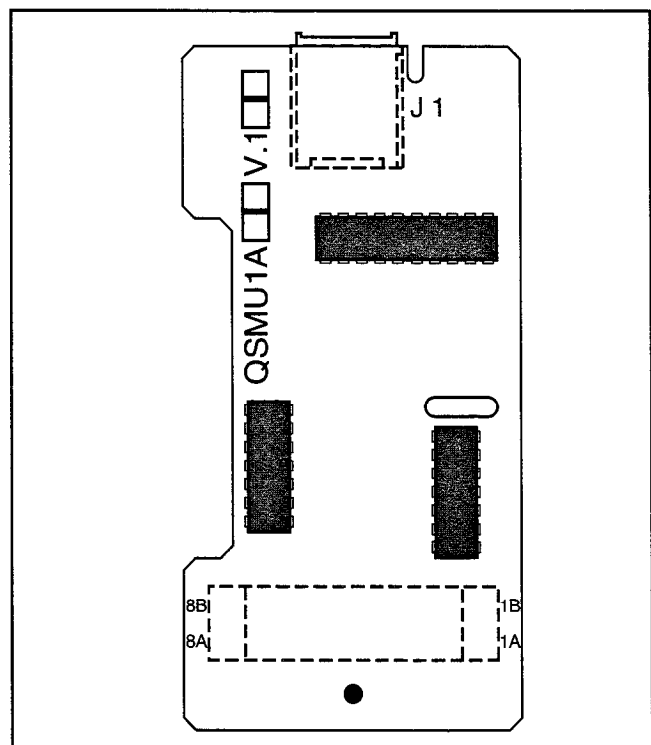

FIGURE 4-13
11.02 The QSMU is shown in Figure 4-13.